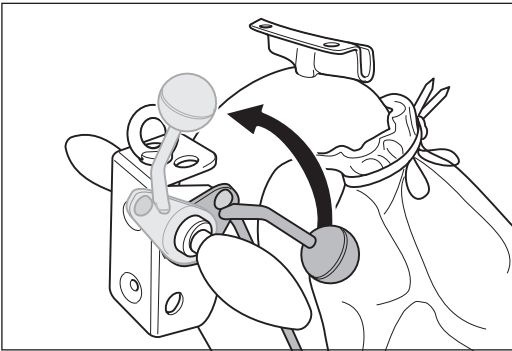

Fig. 94 Lift the sanding drum off the floor by turning the lowering lever at the handle upwards
- 1 Lift the sanding drum off the floor by turning the lowering lever at the handle upwards (fig. 94).